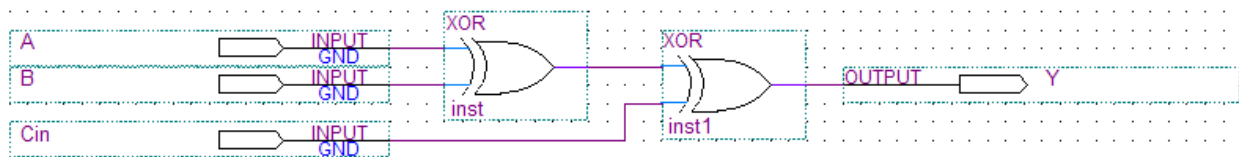

Figure 4. Schematic for sum logic
From the truth table, we now want to implement our design using logic gates. The sum output (S) can be produced from the inputs by connecting two 2-input XOR gates as shown in Figure 4. You should convince yourself that this circuit produces the outputs for S as given in the table.
Use the Orthogonal Node Tool () to wire the gates together. Click and drag to connect the pins to gates and the two gates together. At this point, your schematic should resemble Figure 4.